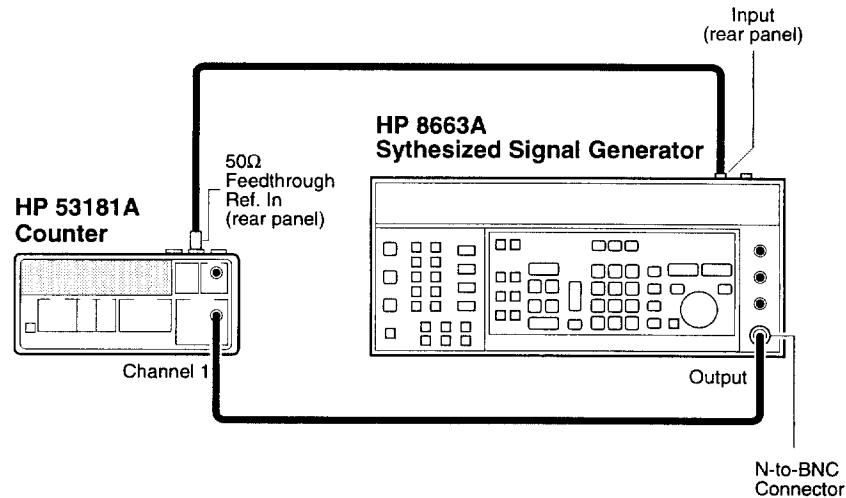

Figure 1-13. Channels 1 Frequency Sensitivity Test Setup
- 1 **Connect the equipment as shown in Figure 1-13 with the signal generator connected to Channel 1 of the Counter.**